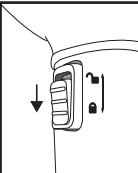

Fig 1
- Press the trigger switch on the steamer head handle to produce steam. You can lock the trigger switch in place for continuous use by pressing the switch in and sliding down. See Fig 1.